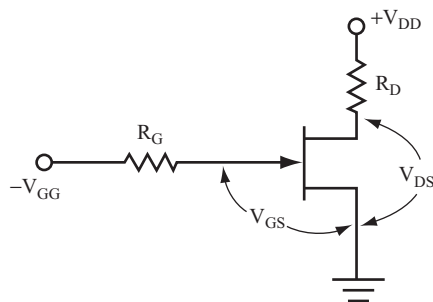

FIGURE 3.29
Figure 3.29 shows a typical biasing circuit for the N-channel JFET. For a P-channel JFET, you must reverse the polarity of the bias supplies.
**31** When the gate to source voltage is at 0 volts ( $V_{GS} = 0$ ) for the JFET (refer to Figure 3.29), the drain current is at its maximum (or saturation) value. This means that the N-channel resistance is at its lowest possible value, in the range of 5 to 200 ohms. If  $R_D$  is significantly greater than this, the N-channel resistance,  $r_{DS}$ , is assumed to be negligible.